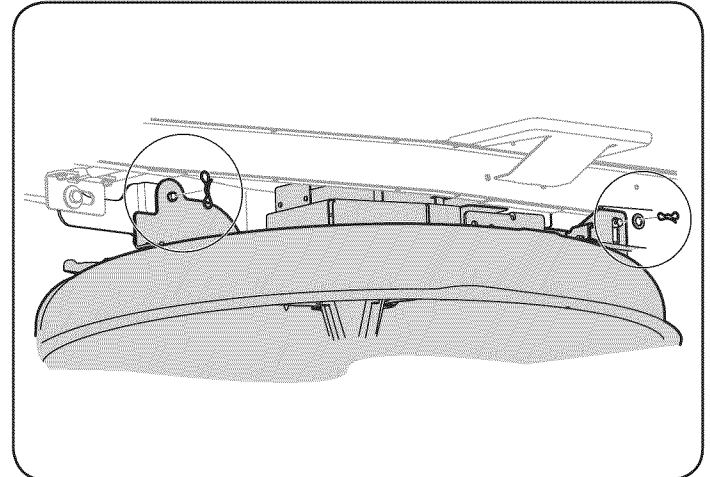

Figure 33
5. Remove the remaining bow-tie cotter pins securing the deck to the unit, as shown in Fig. 33.